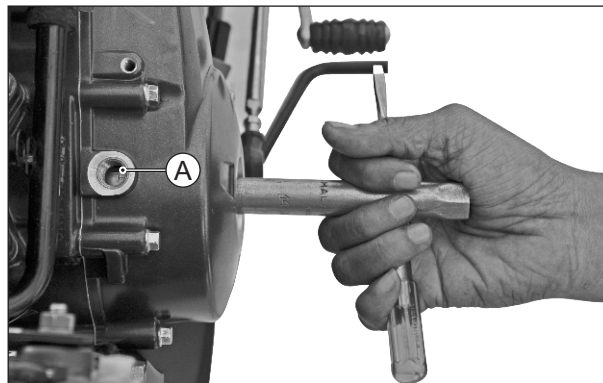

Fig. 3.75
- Ensure that the transmission is in neutral and align the TDC mark (A) on rotor assembly with center of the inspection hole provided in the cover magneto by rotating the rotor assembly. (Fig. 3.75)